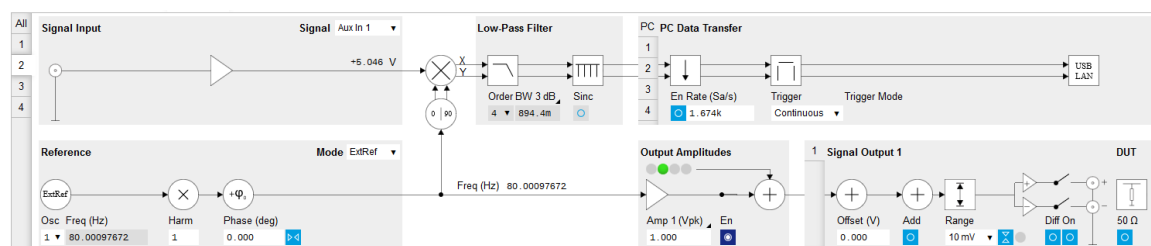

**Figure 3.6. Lock-in tab with settings for external reference (without MF-MD option)**
**Without MF-MD Multi-demodulator option:** Open the graphical Lock-in tab. In the Internal/External Reference section on the bottom row of that tab, the section label is actually a control which can be toggled between Internal Reference (default) and External Reference. Set it to External Reference. To the right of that control, you can now select the input signal. Select Aux In 1 as the input signal. These settings are also shown in Figure 3.6. The frequency value displayed in the center of the reference section should quickly convert to the 80 Hz of the chopper. The Lock-in settings used to lock to the external reference without MF-MD Multi-demodulator option are shown in the following table.